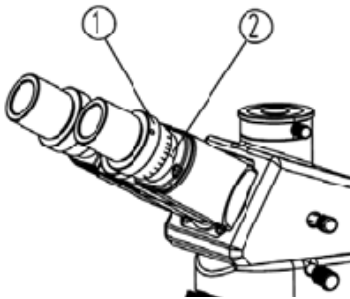

Fig. 9 Diopter Adjustment
Turn the nosepiece to set the 4X objective into working position. Use the coarse focusing knob to focus the microscope. Rotate the diopter rings ① (Fig.9) on both the left and right eyepiece tubes so that the "0" on the diopter ring is set at the center line mark ② on the eyepiece tubes.